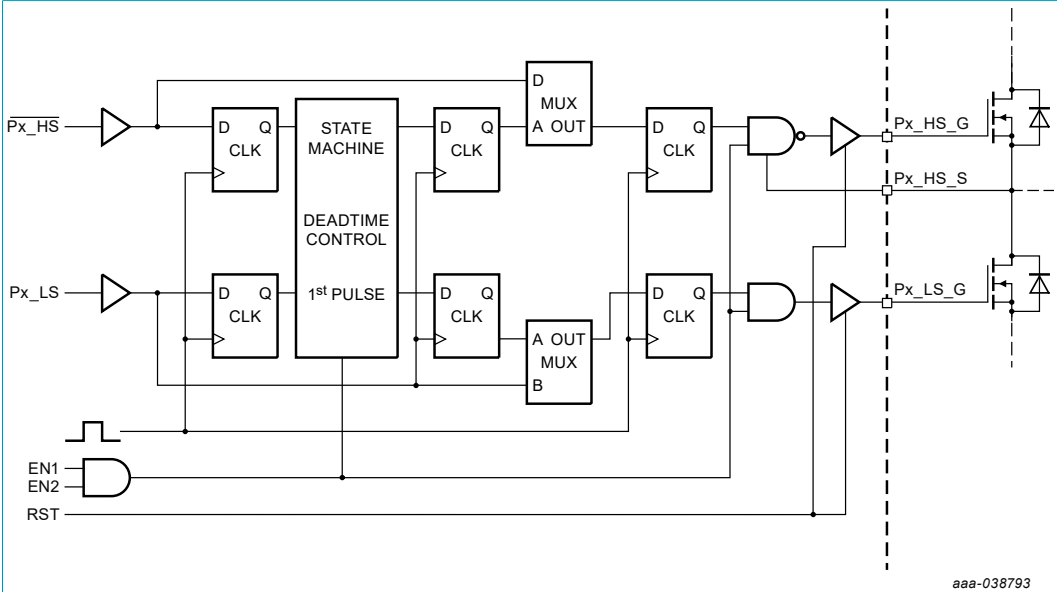
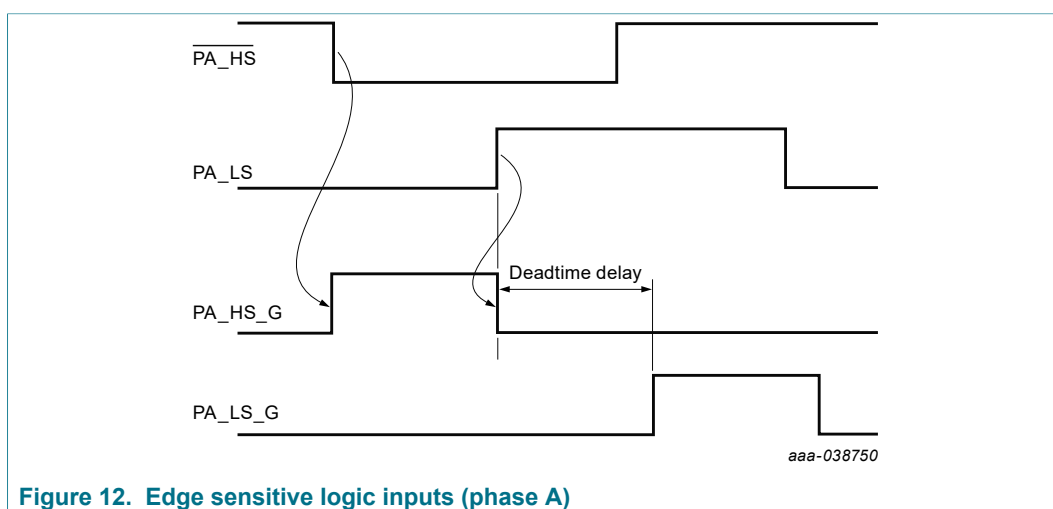

Figure 5. Deadtime control delays
Figure 12. Edge sensitive logic inputs (phase A)
- [6] These delays include all logic delays except deadtime. All internal logic is synchronous with the internal clock. The total delay includes one clock period for state machine decision block, an additional clock period for FULLON mux logic, input synchronization time and output driver propagation delay. Subtract one clock period for operation in FULLON mode which bypasses the state machine decision block. Synchronization time accounts for up to one clock period of variation. See Figure 5.
The $\overline{\text{Px_HS}}$ and Px_LS logic inputs are edge sensitive. This means the leading edge on an input causes the complementary output to immediately turn off and the selected one to turn on after the deadtime delay as illustrated in Figure 12. The deadtime delay timer always starts at the time a FET is commanded off and prevents the complementary FET from being commanded on until after the deadtime has elapsed. Commands to turn on the complementary FET after the deadtime has elapsed are executed immediately without any further delay. See Figure 5 and Figure 12.